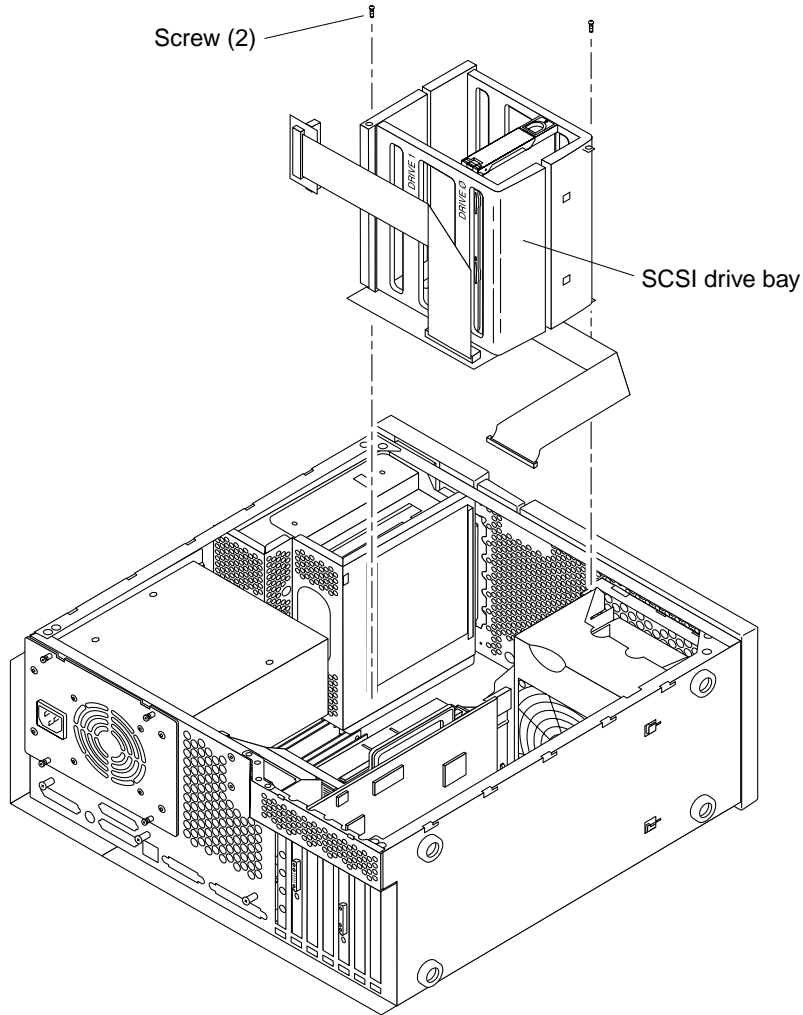

FIGURE 8-4 Removing and Replacing the SCSI Drive Bay
4. Remove the SCSI drive bay as follows (FIGURE 8-4):
1. **Replace the SCSI drive bay as follows (FIGURE 8-4):**